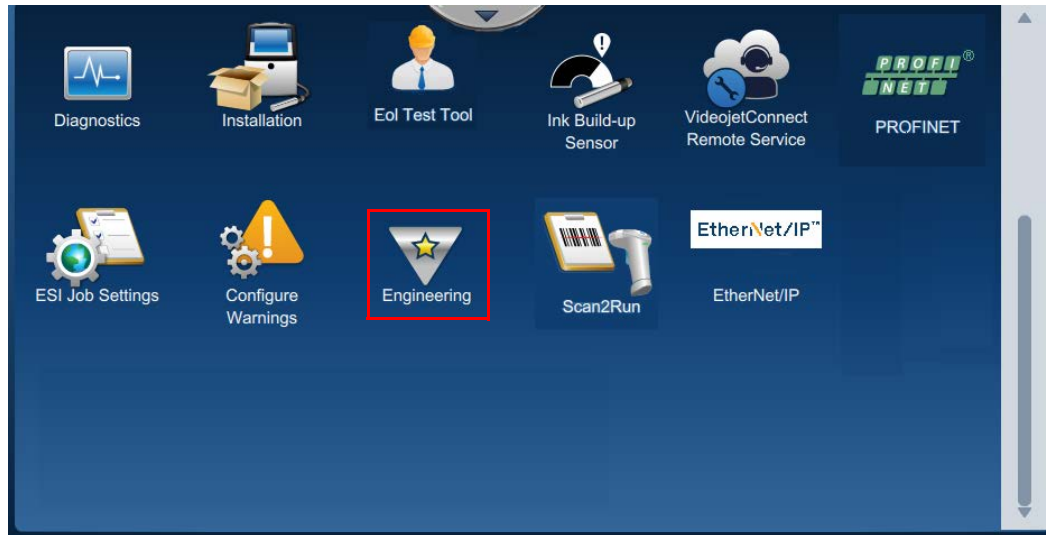

Figure 7-30: Tools Screen
4. After logging in to the printer using elevated password, navigate to Tools screen and touch *Engineering* button as shown in Figure 7-30.